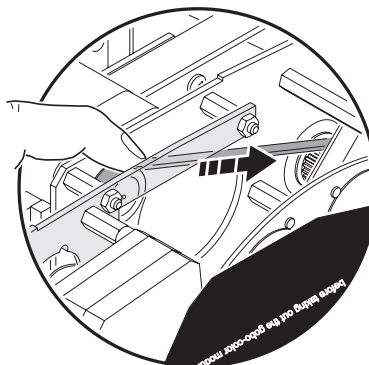

Figure 19: Retracting the gobo animation wheel
6. Flip the head top side up again. To avoid bending the gobo animation wheel when you remove the module, move the wheel in towards the center of the module by inserting a finger and rotating the positioning belt idler pulley at the top of the module as shown in Figure 19.